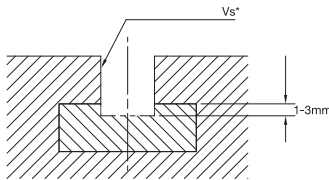

Fig. 1
- Machining a vertical slot, depth to be kept at a minimum as shown in Figure 1
- If the depth is greater than Figure 1, chip evacuation problems could occur.
- Vibrations could occur when the T-slot cutter diameter increases; use Figure 1 as the starting point.